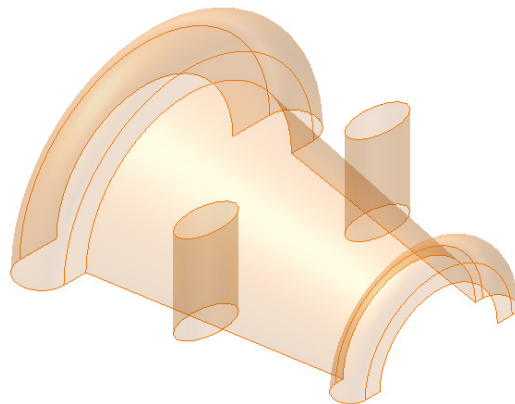

Figure 18-55 Model after creating the mirror feature
- c. Create two extruded surfaces, refer to Figure 18-55.
4. Select the extruded elliptical surface and then select **XZ Plane** as the mirror plane. Next, choose **OK** from the **Mirror** dialog box; the feature is mirrored, as shown in Figure 18-55.